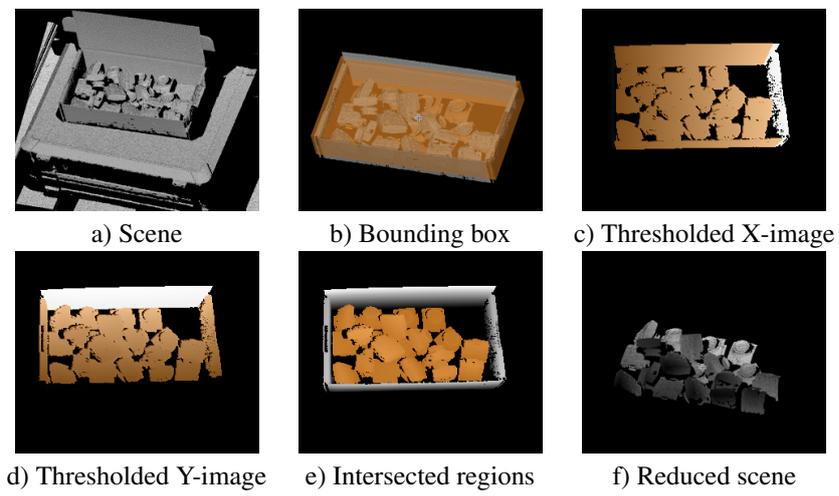

Figure 6.4: After removing the background plane the domain is reduced based on the 2D-mappings of the scene.
2. Estimate the extents of the bin. Now that the scene is reduced to the bin containing the objects to be localized, the bin is estimated approximately with respect to the scene coordinate system (see figure 6.4 b).
4. Apply a 2D threshold on the X and Y mappings (see figure 6.4 c) and d).
5. Compute the region of interest by intersecting the X- and Y-mappings and the domain of the scene without background (see the results in figure 6.4 e) and f).